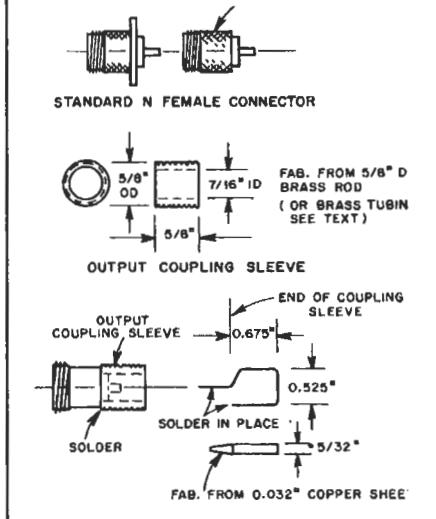

Fig 7—Output-probe/connector assembly details.
- J2 — Modified Type-N connector. See text and Fig. 7.
- L2 — Output-coupling loop. Part of output-connector assembly. See text and Fig. 7.
A standard Type-N chassis-mount female connector (silver plated) is used for the output probe/connector. See Fig. 7. First, remove the flange with a hacksaw and file flush with the connector body. Next, make the output-coupling sleeve that is right for your application (threaded or unthreaded, depending on how you fabricated the ring). The sleeve will be the same length in either case. The output-coupling loop is fashioned from a piece of 0.032-inch-thick copper sheet that is $\frac{5}{32}$ inches wide. Bend it to the dimensions shown in Fig. 7. We will solder the output connector together later.
While the grid assembly is cooling, assemble the output connector. See Fig. 7. Place the modified Type-N female connector, threaded end down, on the soldering fixture. Apply flux to the top and install the output coupling sleeve. Allow both parts to heat before applying solder. Carefully remove the soldered output connector from the fixture. When it has cooled, solder one end of the loop to the center pin of the N connector and the other to the output coupling sleeve.